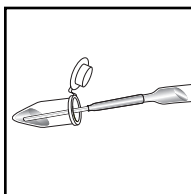

Figure 1
2. Fill the micro-test tube approximately halfway with **your sample** (fig 1).